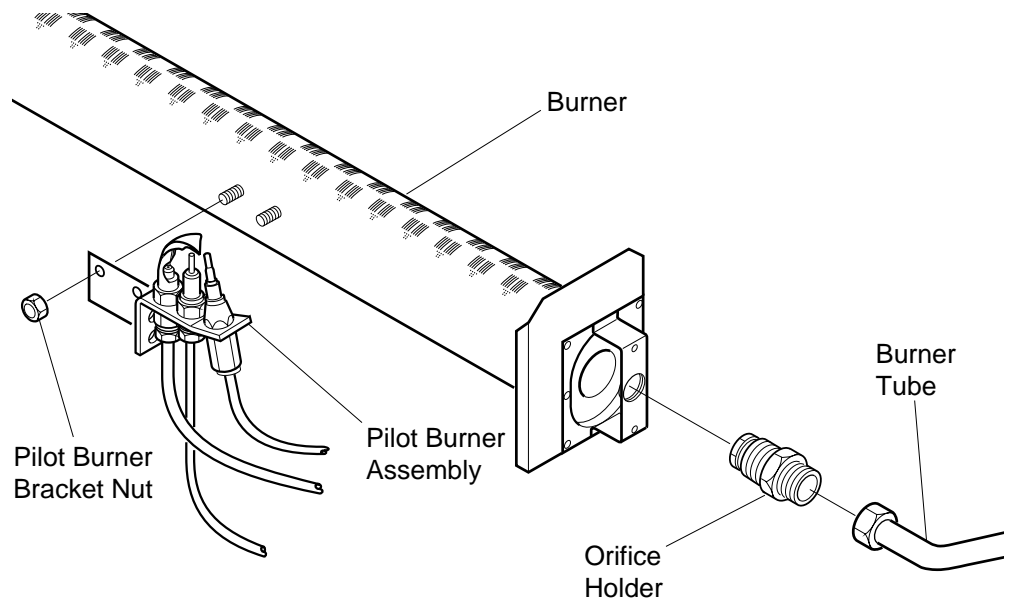

Figure 23 - Removing Burner Tube, Orifice Holder, and Pilot Burner Assembly (35,000 BTU/Hr Burner Shown)
3. Disconnect burner tube from orifice holder (see Figure 23).
4. Remove orifice holder from burner (see Figure 23).
5. Remove pilot burner bracket nuts and remove pilot assembly (see Figure 23).